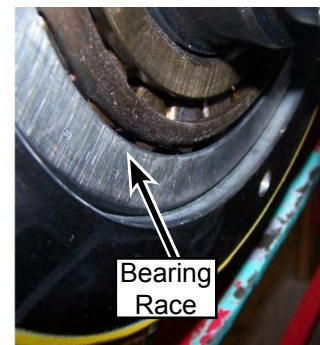

Figure 158: Tap in the Bearing Race
12. Keeping the crankshaft supported with the crane, tap the drivers end side bearing race into the pump frame with a rubber mallet until flush with the outside of the case. (Figure 158)